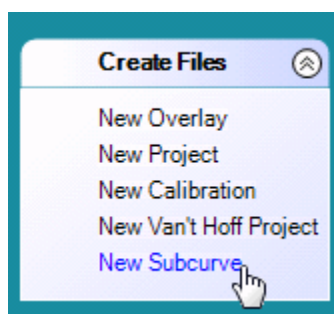

Figure 4.17 - Choosing the sub curve option
- d) Once the selection has been made, Click the New Subcurve item in the Activity Bar as shown in Figure 4.17.